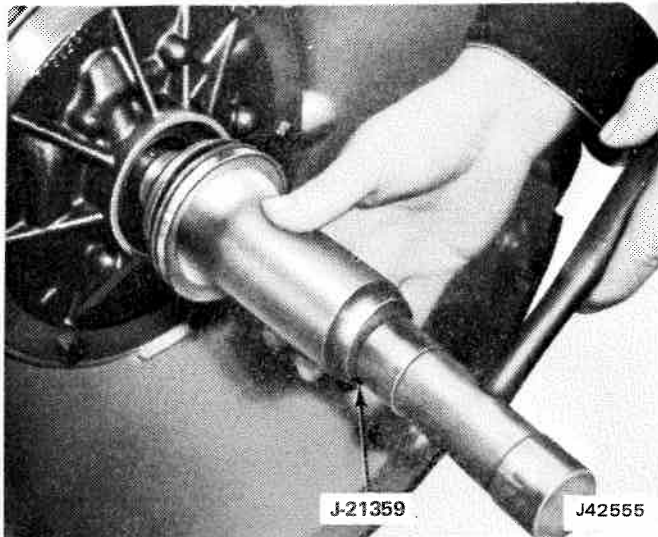

Fig. 7-125 Installing Pump Seal
- (6) If necessary to install a new front seal, use a non-hardening sealer on outside of seal body, and using Seal Driver J-21359, drive seal in place, as shown in figure 7-125.